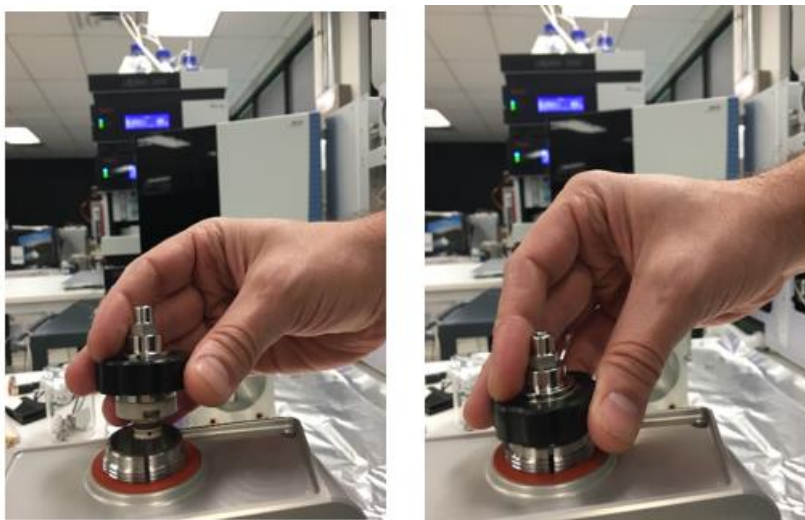

Figure 104: Aligning the pin on the APCI probe with the source housing
- 19) Align the pin on the APCI probe assembly with the slot in the source housing and screw the probe in place. See Figure 104.